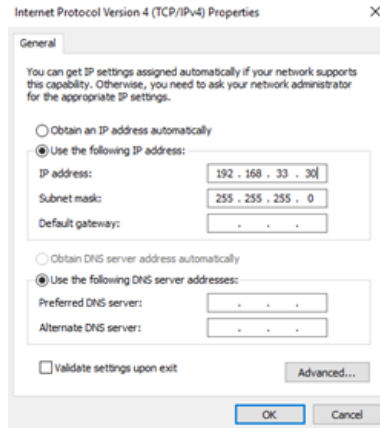

Figure 1: Ethernet specifications.
4. Configure network settings to communicate with the DCA board by setting up the Ethernet network setting to (192.168.33.30 / 255.255.255.0). See example in Fig. 1.